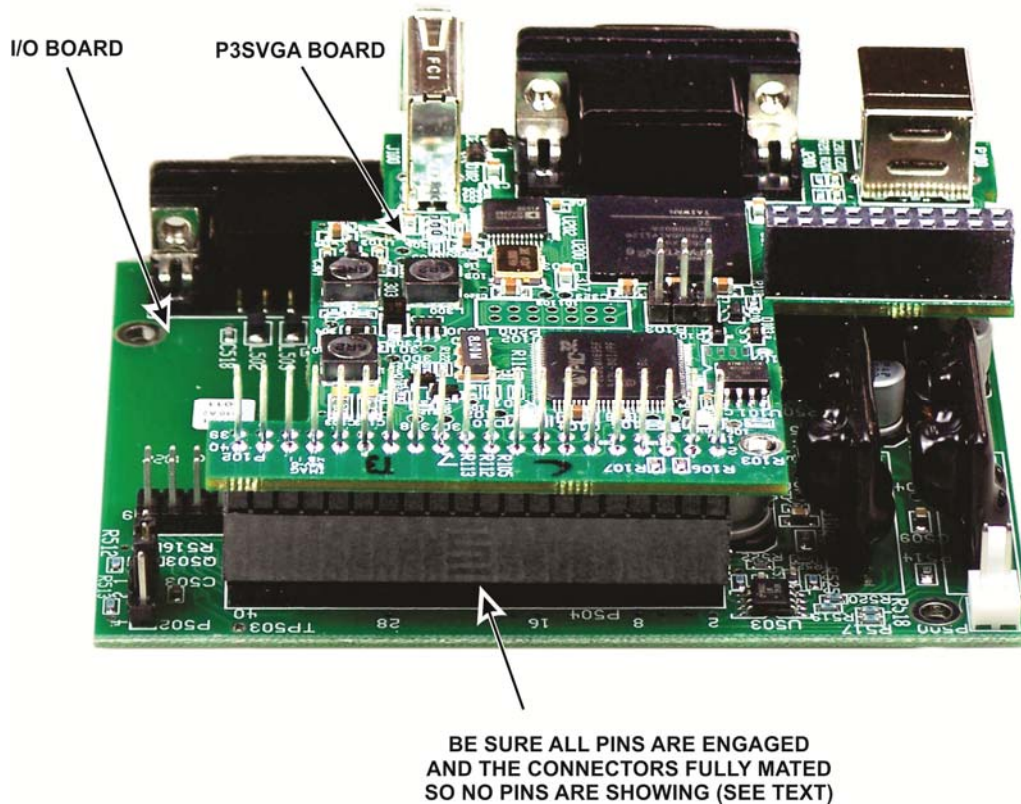

Figure 5. Mating the I/O and P3SVGA Boards.
□ Mount the P3SVGA board on the I/O board as shown in Figure 5. The connector on the P3SVGA board mates with the connector on the I/O board that originally received the ribbon cable. **Be sure the connectors are aligned so that all pins engage. To avoid over-stressing the boards, place the I/O board on a firm surface. You may need to rock the P3SVGA board slightly while pressing down to “walk” the pins into the connector like you did when removing the ribbon cable earlier.**